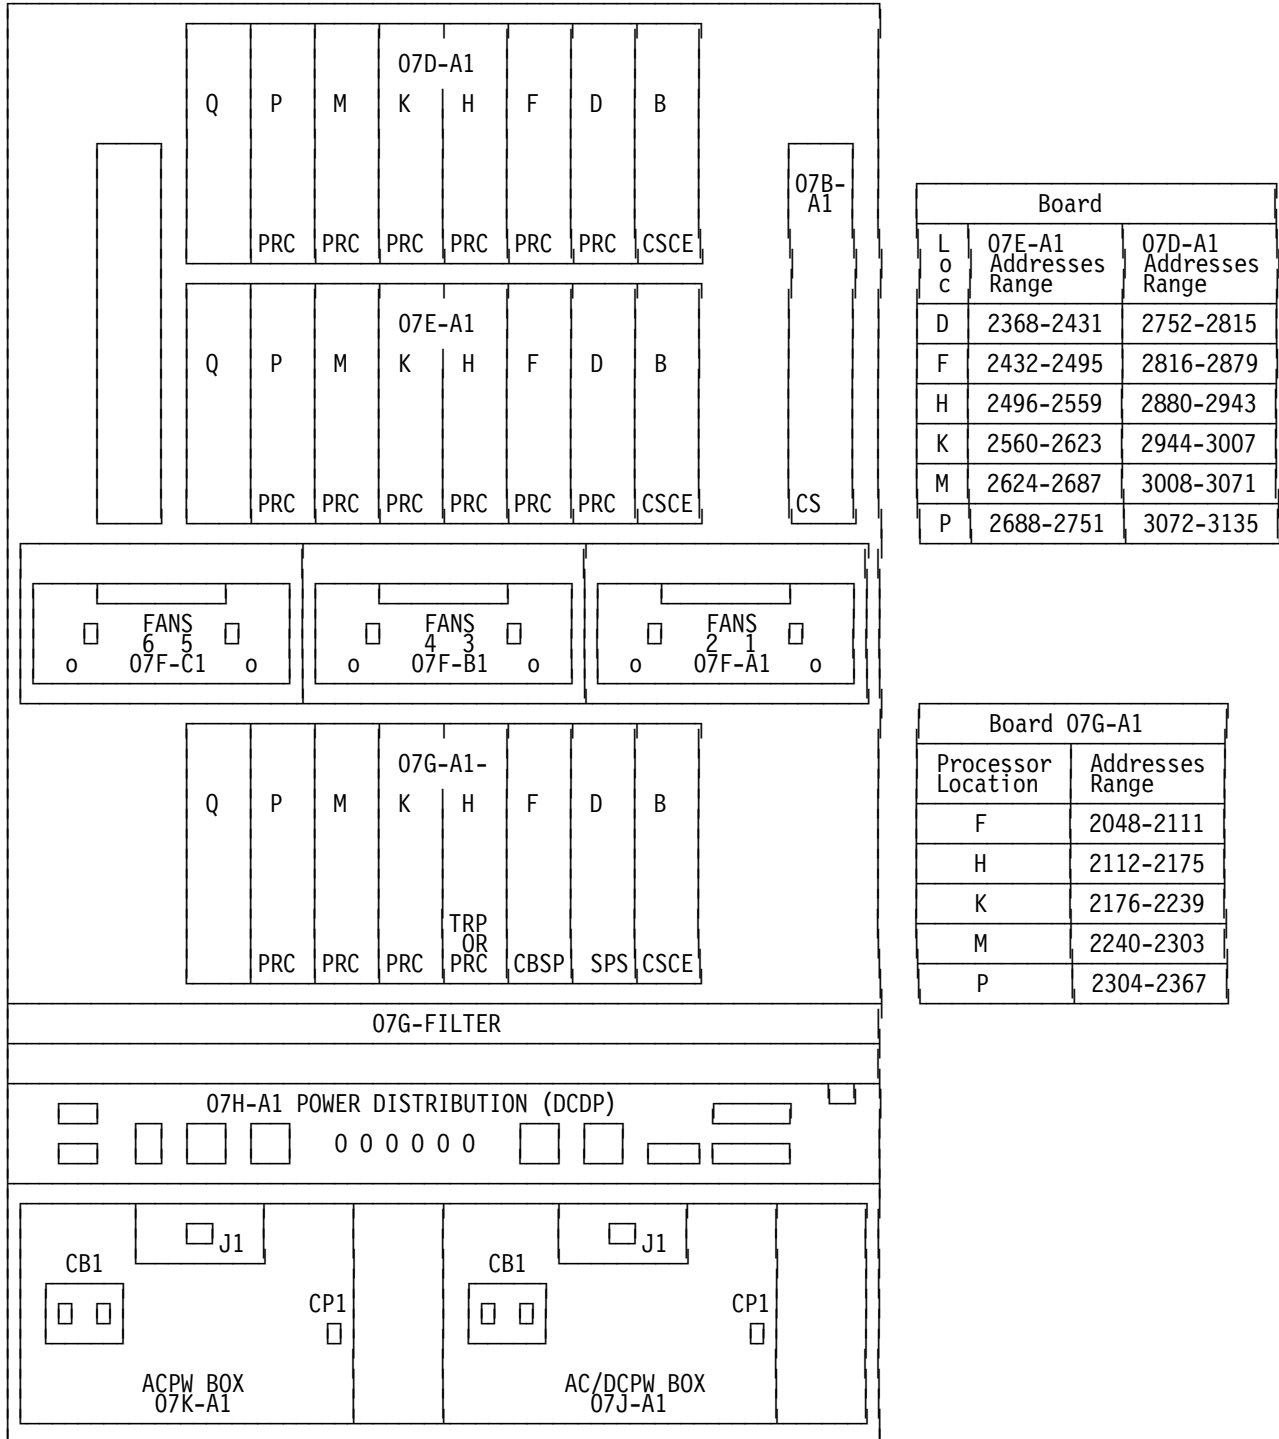
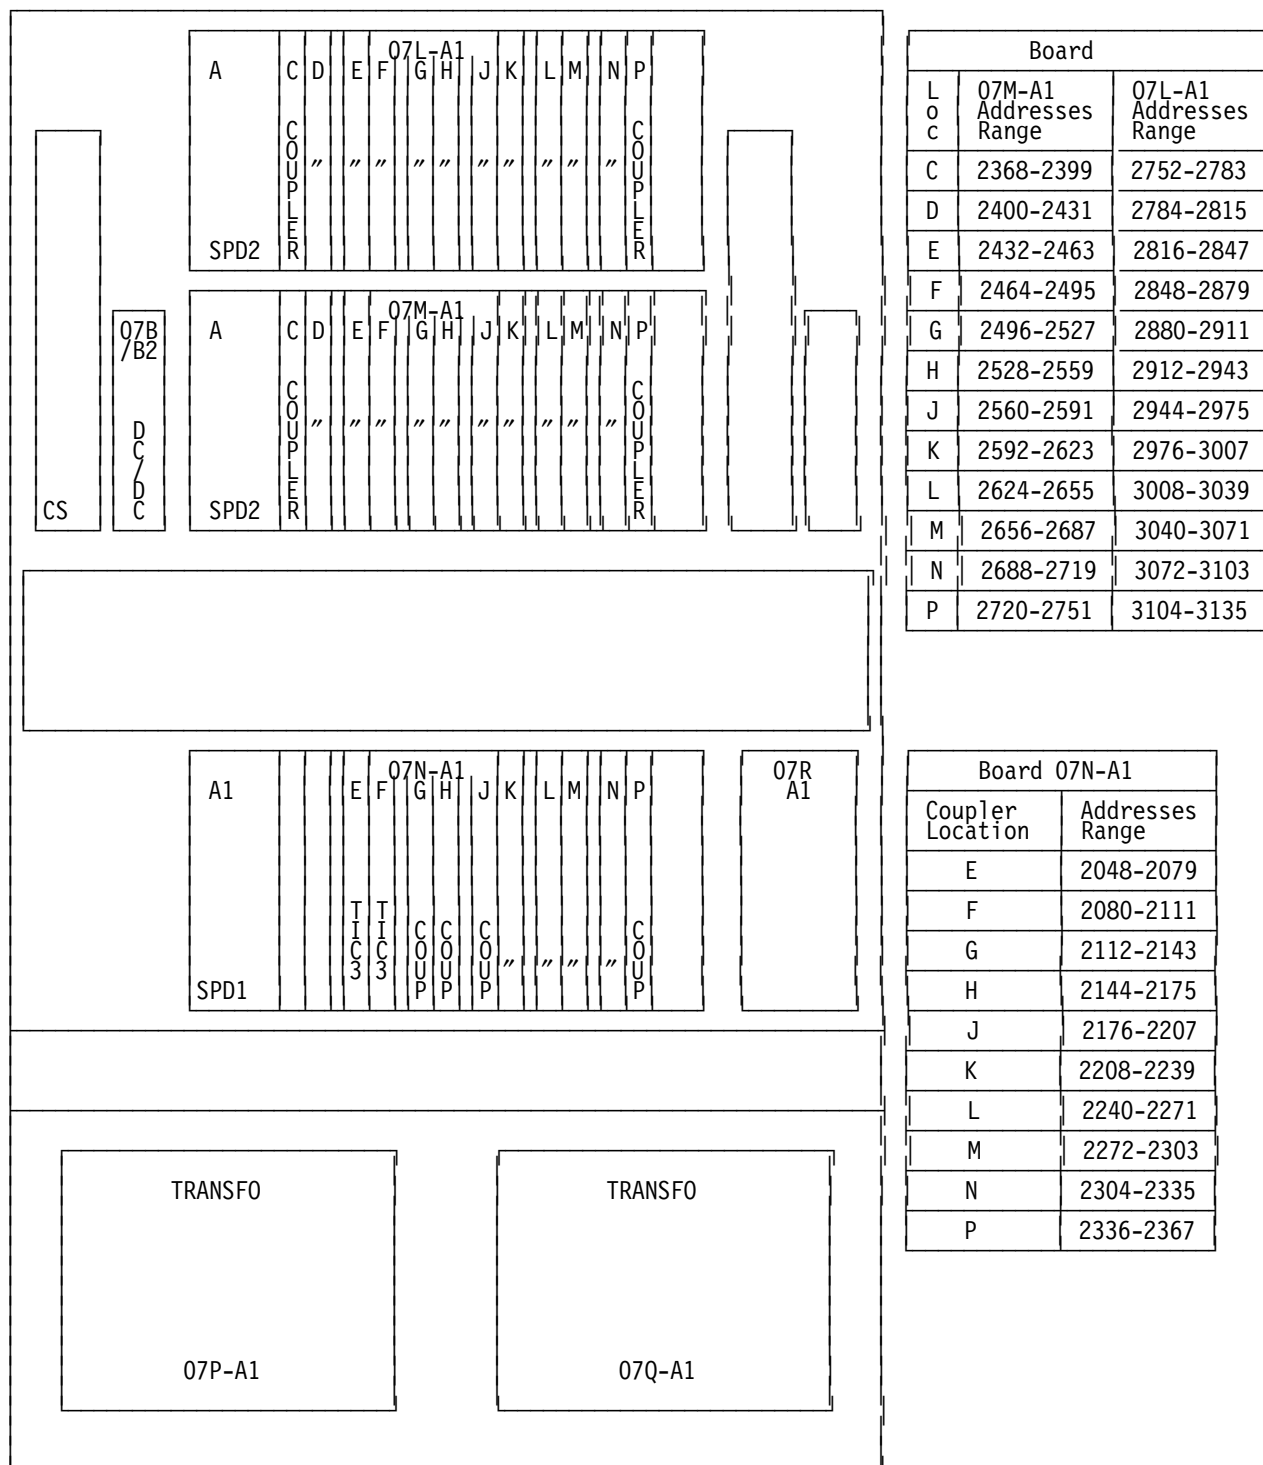

Figure 1. 3746 Model 950 Front Side
Figure 2. 3746 Model 950 Rear Side
1. Locate the connectivity switch using Figure 1 on page 6 and Figure 2 on page 7.